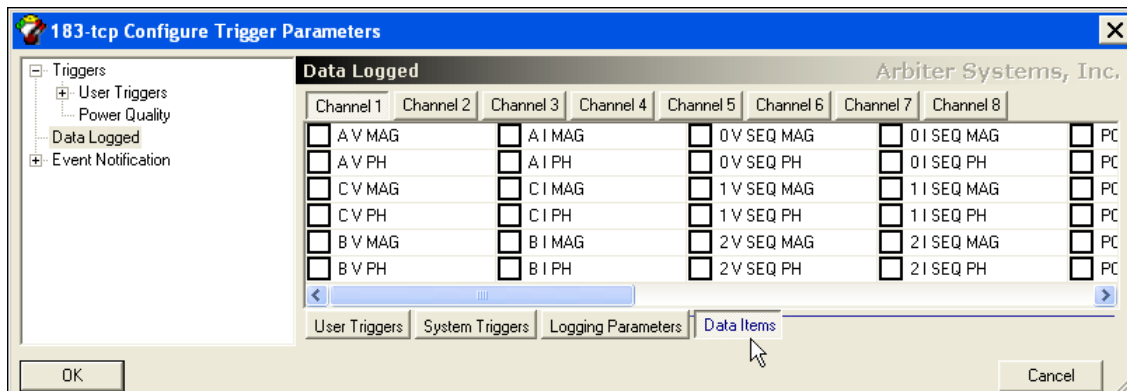

Figure 8.6: Configure Data Items Screen
8. Click the Data Items tab to select the type of data logged once an event is triggered. Items change with each type of data selected under “Logging Parameters.” See Figure 8.6.